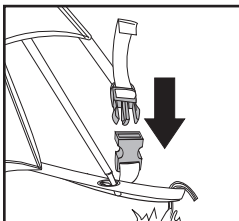

Figure 11A
11. Clip the buckles on the fly to the buckles on each corner clip of the tent body (Fig. 11A and 11B).